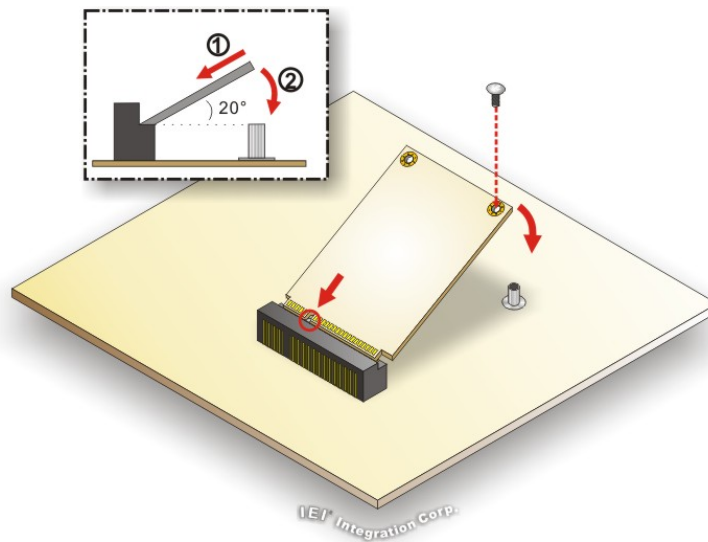

Figure 4-4: PCIe Mini Card Installation (Full-size)
Step 3: Push the other end of the PCIe Mini card down and secure the card with the previously removed retention screw (**Figure 4-4**).